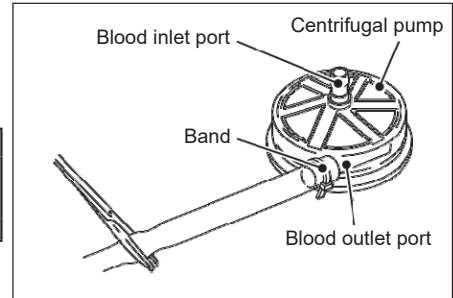

Figure 1-30
- Connect the extracorporeal circulation circuit line to the blood inlet port and the blood outlet port of the centrifugal pump. (Figure 1-30)